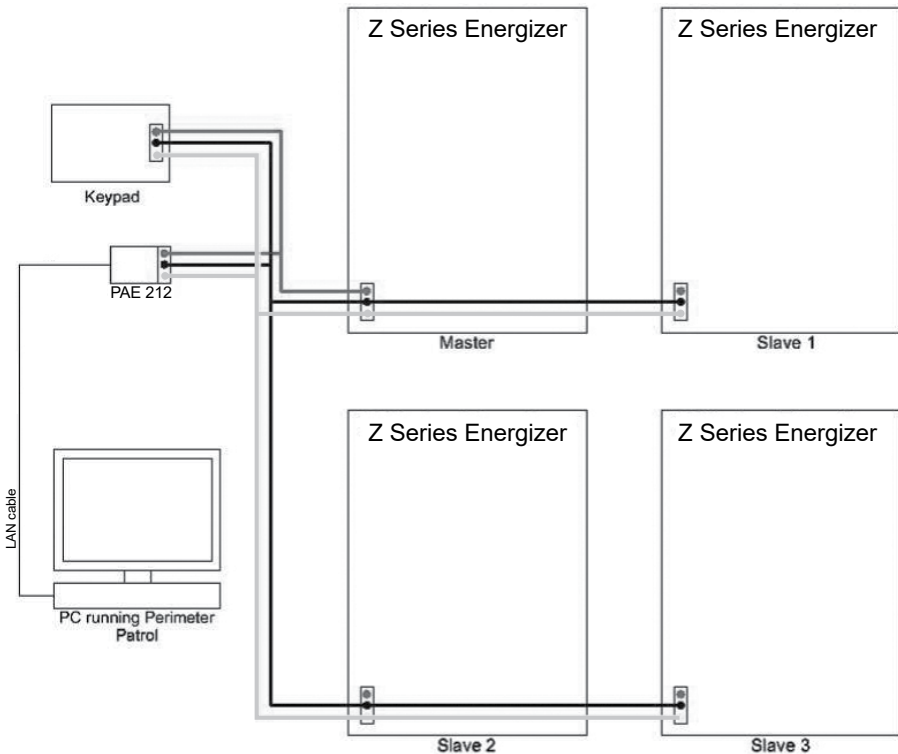

Figure 7: Group Mode Linking
7. Connect the group using the keypad bus as per Figure 7.
NOTE: In some markets Group Mode may not be available. For details on group wiring and operation Figure 7.